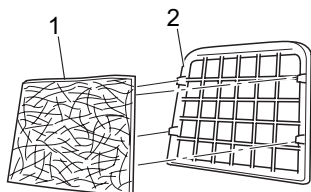

Fig. 31
5. Insert the new protective motor filter (Fig. 31/1) into the holder (Fig. 31/2) and push the holder back into the locking rails again.